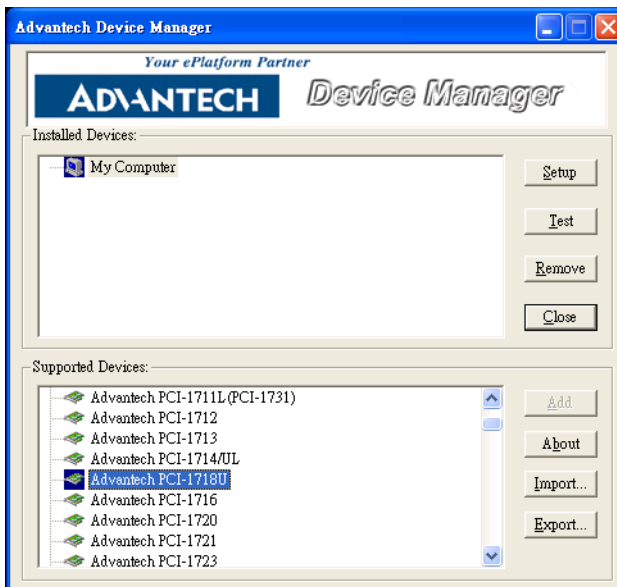

Figure 2.3: The Device Manager Dialog Box
2. You can then view the device(s) already installed on your system (if any) on the *Installed Devices* list box. Since you have not installed any device yet, you might see a blank list such as the one below (Fig. 2-3).